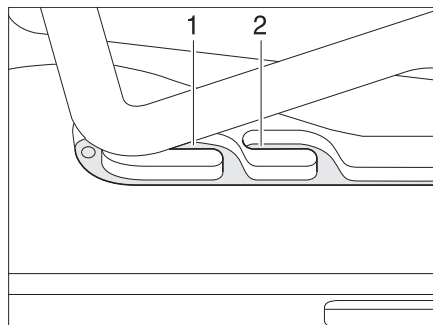
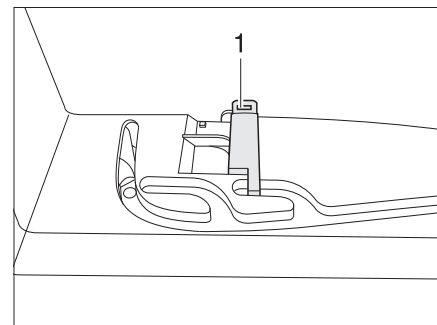

Fig. 24 Hinged skylight in ventilation position
Fig. 25 Locking mechanism in ventilation position
The hinged skylight can be put in two ventilation positions: Bad weather position (Fig. 24,1) and central position (Fig. 24,2). Depending on the model, the skylight can be locked in the central position with the latch (Fig. 25,1).
- Push the bar slightly upwards and into the selected guide (Fig. 24,1 or 2) and lock if necessary.